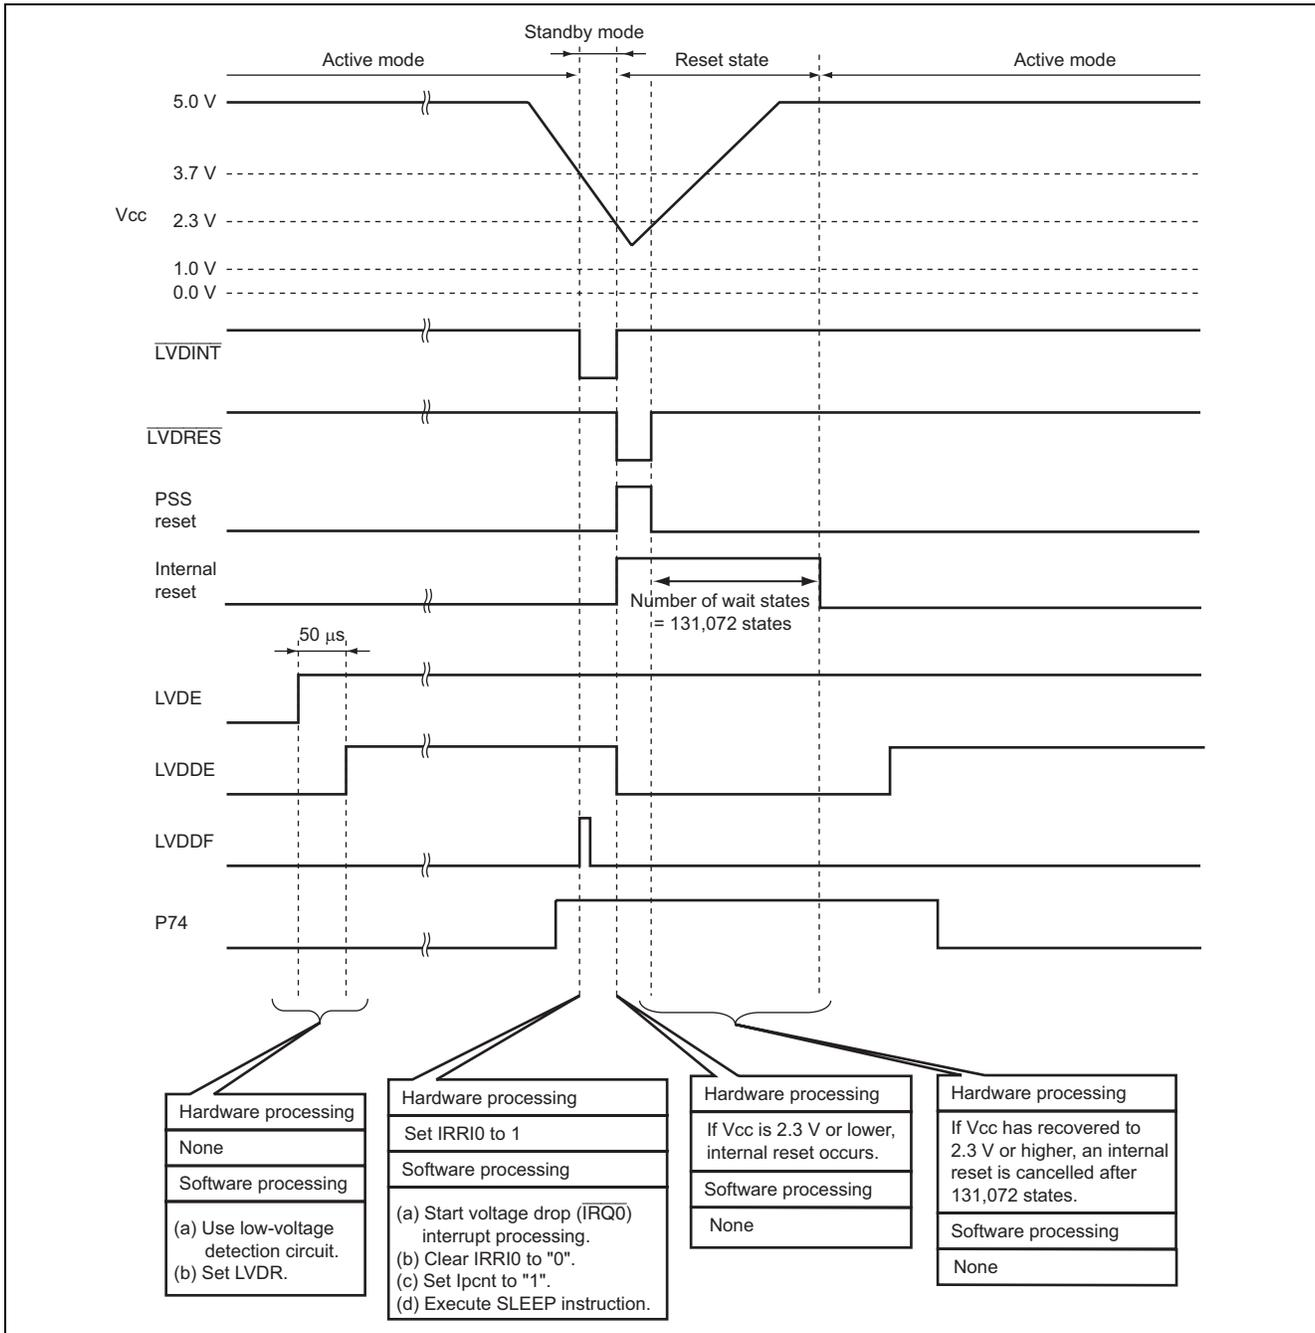

Figure 3.2 Description of operation (2)
2. Figure 3.2 illustrates a transition to standby mode triggered by a low-voltage detection interrupt, and reset operation on low voltage detection.